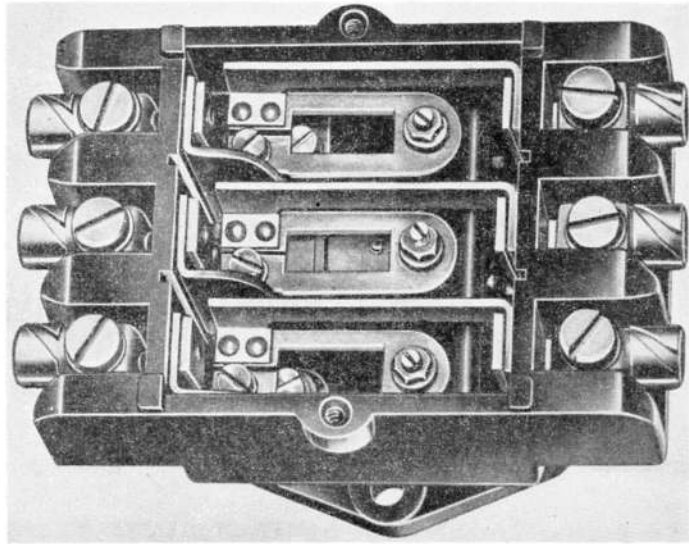

Fig. 1. Type D.6208/1 thermal switch without cover
2. The type D.6208/1 thermal switch is illustrated in fig. 1 and is similar in construction to the 208-V 400 c.p.s. three-phase a.c. units described in A.P.4343 Vol. 1, Sect. 11, Chap. 6. Operating from a three-phase supply, the unit has three line connection strips and three bi-metal elements connected between terminals, A and L1, B and L2, C and L3 respectively. The three bi-metal elements are each positioned to operate the single trip bar if overloaded.